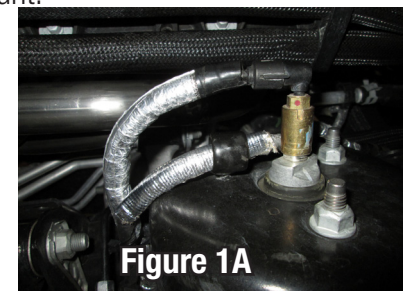
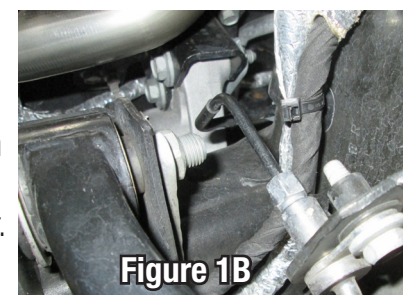

Figure 1A
Figure 1B
Step 9: Remove the (4) 18mm nuts securing the transmission / transfer case mount.
Step 10: Remove the (4) 18 mm nuts and bolts to remove the crossmember.
Step 11: Remove the (4) 10mm nuts on the Y-pipe to OE exhaust manifolds and remove OE Y-pipe.
Step 12: Remove (4) 6 mm nuts on right side exhaust manifold heat shield and remove heat shield.
Step 13: Remove the (9) exhaust manifold bolts and remove OE exhaust manifold.
Step 16: Reroute the right front ABS wire by disconnecting it and removing snap in plugs, then securing it to the strut tower with provided fixing clamp and 10mm nut. (Note): Nylon cable ties are provided to join the wires together. Reference Figure 1A and Figure 1B.